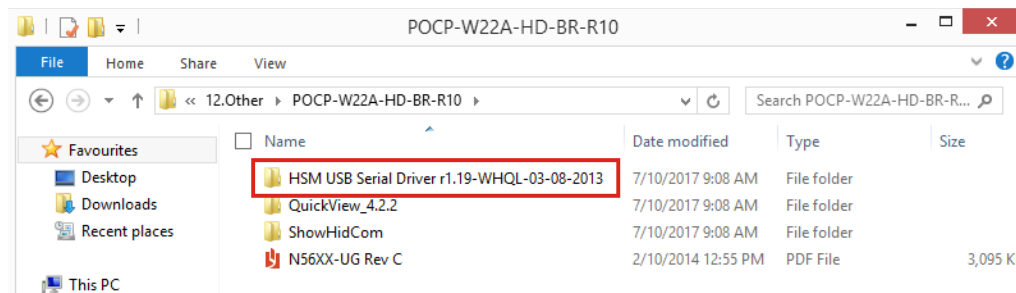

Figure 5-28: Barcode Reader Driver Folder
Step 1: Select **Other** from the list of the driver menu. Double click the **Install_x86.bat** file (or **Install_x64.bat** for 64-bit OS) in the **POCP-W22A-HD-BR-R10** folder shown in **Figure 5-28** to install the barcode reader driver.